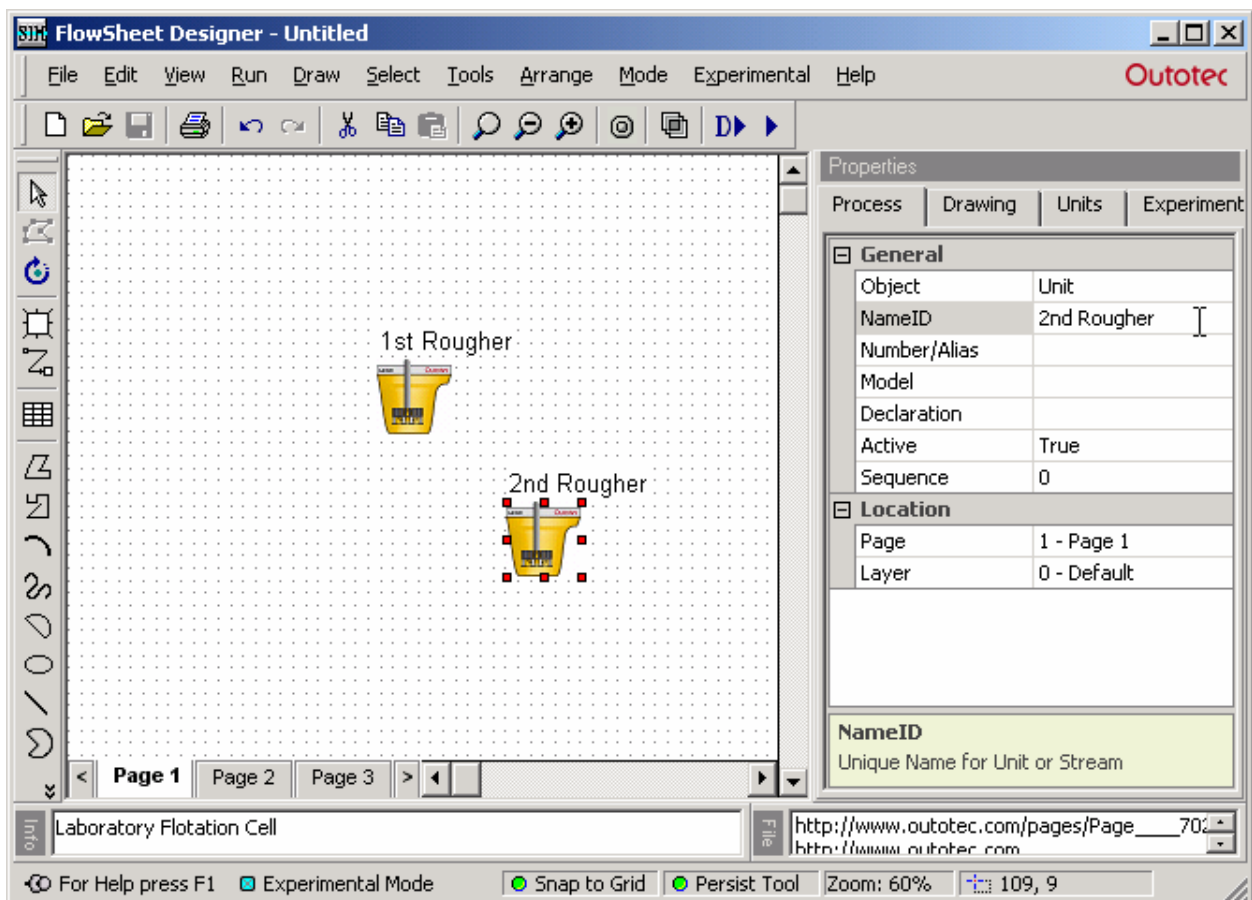

Figure 5. Name the unit, use the "Process" tab and NameID field
- Rename the unit using the “Process” tab and NameID field (Figure 5)